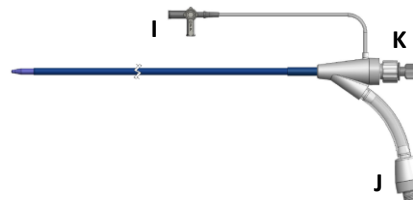

Figure 3: Aspiration Catheter with Dilator
The CLEANER Vac™ 18F Aspiration Catheter with Handpiece also includes an 18F (OD) x 115cm Aspiration Catheter and Dilator. The Aspiration Catheter (Figure 3) contains a radiopaque marker band, Side Port with 3-way stopcock (I), Aspiration Port (J), and Dilator Port (K). The Side Port allows for infusion of fluids. The Aspiration Port connects to the